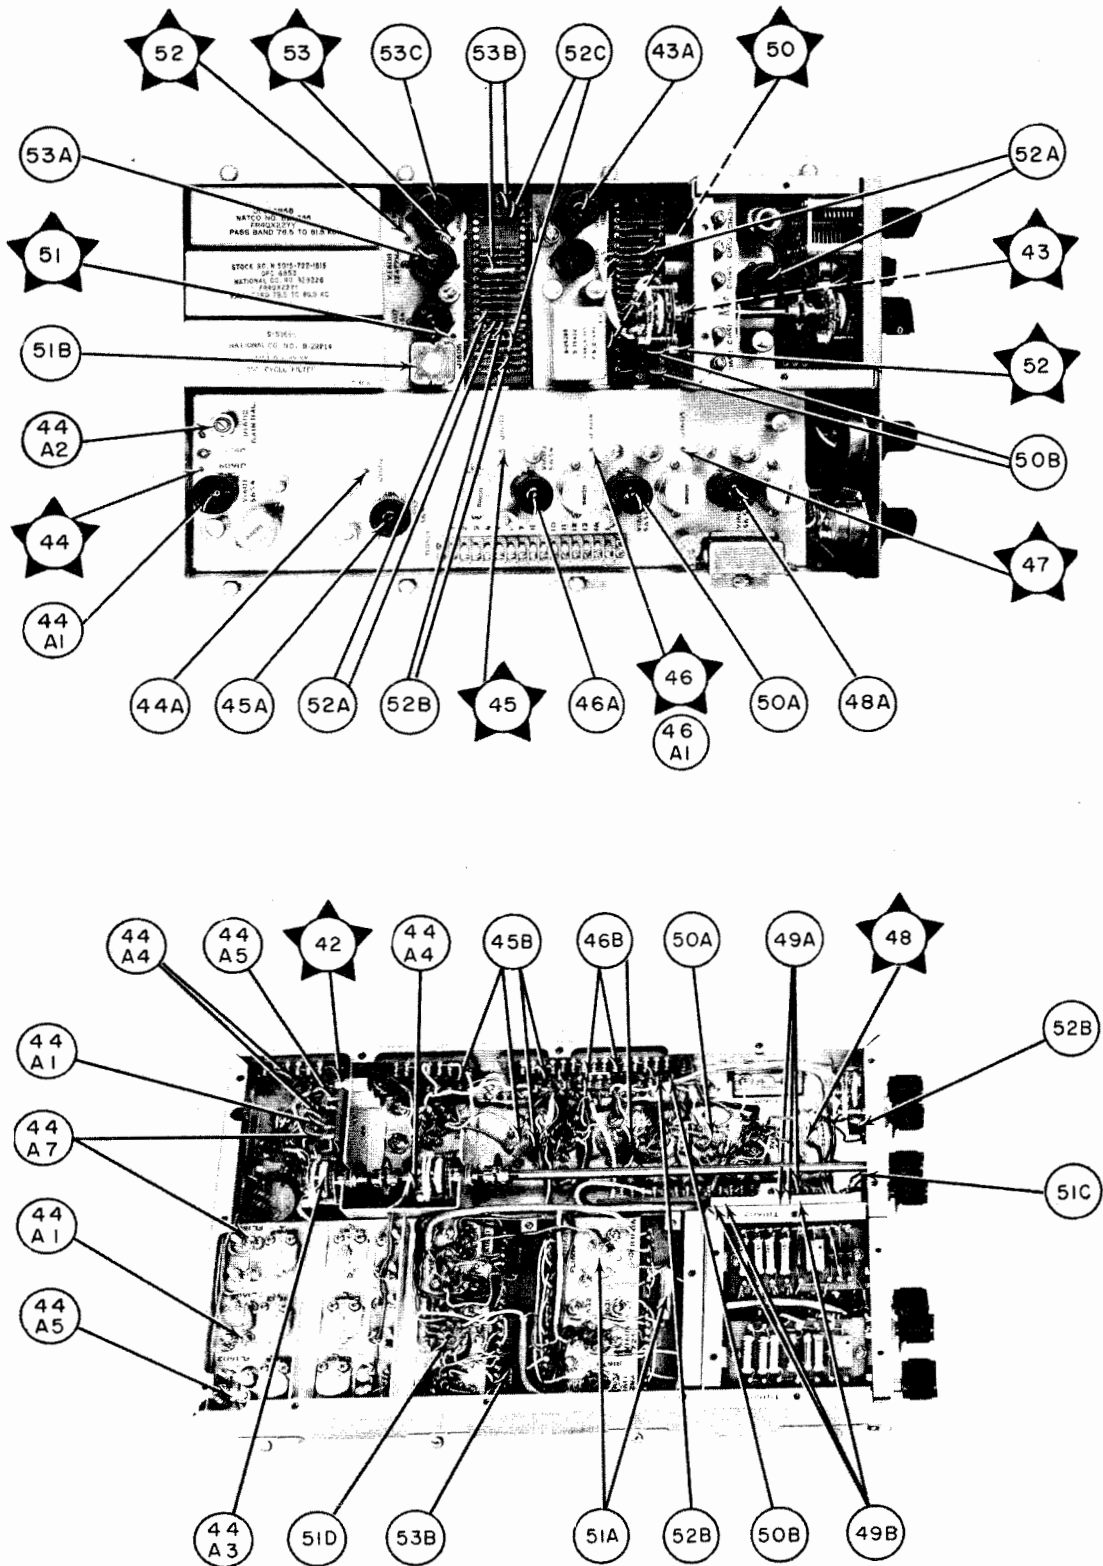

Figure 5-34. AM Detector-Amplifier, Location of Test Points
b. ACCESS.—The AM detector-amplifier is located in the upper demodulator deck. Figure 5-33 shows the location of parts and figure 5-34 the location of test points.
- (1) Seating of tubes V1601 through V1611 in their sockets
- (2) Cable connections at J1601 and TB1601
- (3) All soldered connections at chassis feed-through terminals
- (4) Normal mechanical function of the following demodulator panel controls: